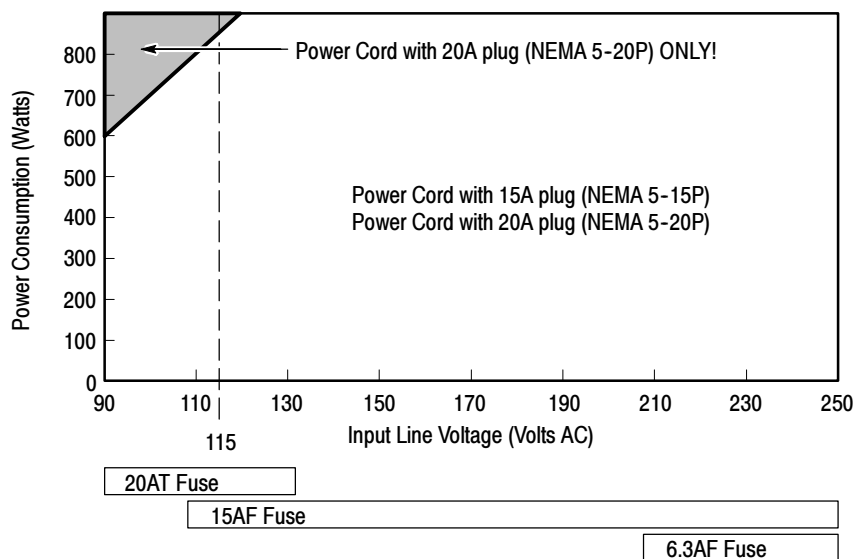

Figure 28: Power cord identification chart
4. Refer to Figure 28 on page 63 to determine the proper power cord and line fuse for your mainframe.
For power usage in the unshaded region of Figure 28, use either the power cord with the 15 A plug (two parallel prongs and ground) or the power cord with the 20 A plug (two perpendicular prongs and ground).
For high power usage combined with low input line voltages (shaded region), use only the power cord with the 20 A plug. Select the proper fuse based on the ranges shown in Figure 28.
Because the power consumption (at 90 VAC) is approaching the shaded area of the graph in Figure 28, you should consider using the 20A power cord.